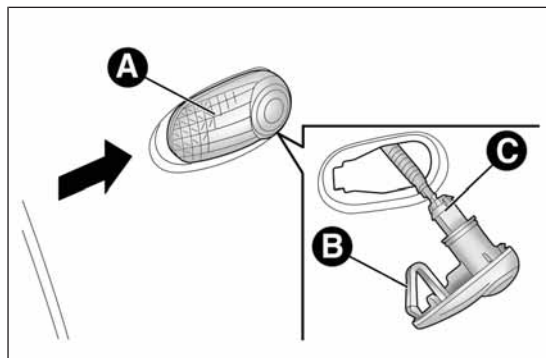

fig. 138
- ☐ operate lens A fig. 138 in order to compress clip B, then pull the unit outwards;